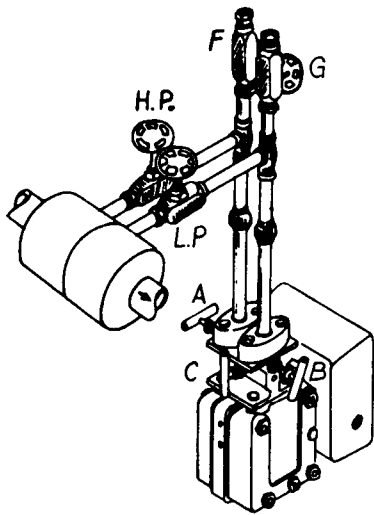

Figure 1. Piping connections for steam or corrosive liquid flow applications, using commercial manifold.
a. Steam Flow Service (Figures 1 and 2)
- (1) Close the HP and LP primary element valves.
- (2) Open valves F, G, A, B, and C.
- (3) Using a funnel, fill the meter and lines by pouring water in valve F and forcing air out through valve G. Crack open the meter vent plugs to release trapped air. Close the vent plugs and valves F and G after meter and piping free of air.
- (4) Place the meter into service by first opening the HP valve, closing valve C, and then opening the LP valve.
- (5) Check instrument zero by closing valve A and opening valve C. Adjust zero if necessary.